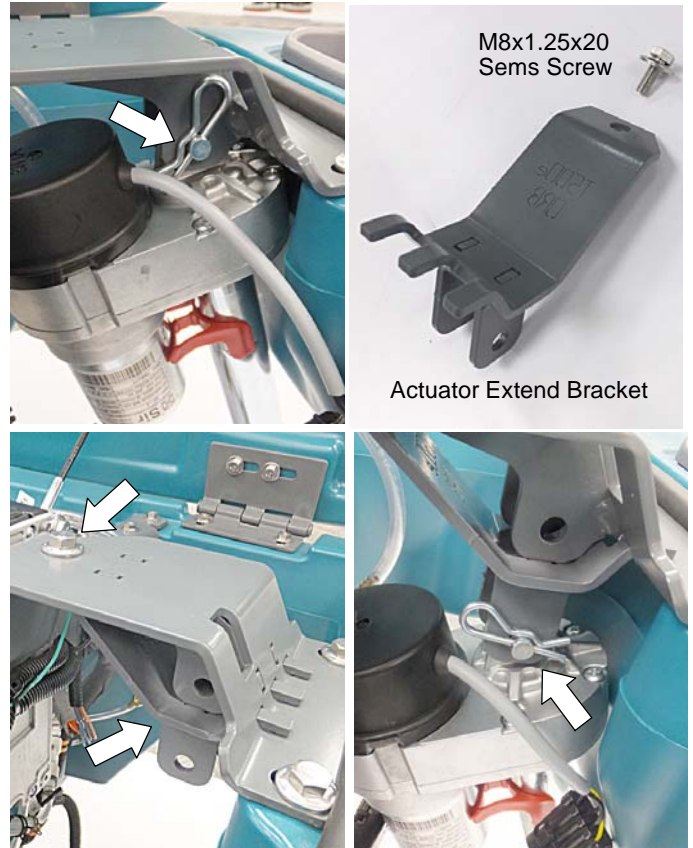

Fig. 9
10. T500e Model Only- Disconnect actuator from machine and install the actuator extend bracket as shown (Figure 9). Reconnect the actuator to the extend bracket.